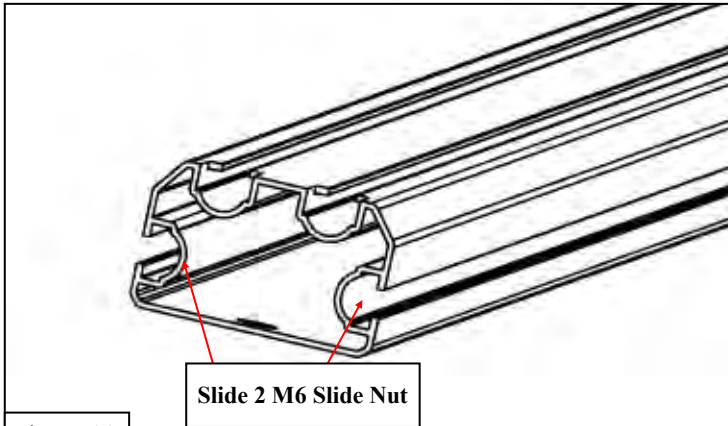

Figure 11
9. Slide 2 M6 Slide Nuts (**Items 11**) on the left and right side of the cross rail (**Item 3**). See **Figure 11**.